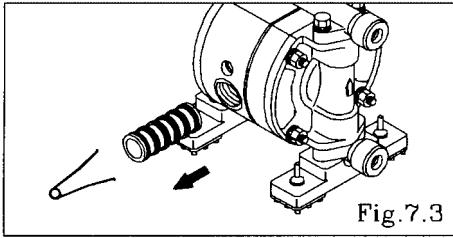

Fig.7.3
- Remove the sleeve using the sleeve remover (special tool: Part number 713148). [Fig.7.3]